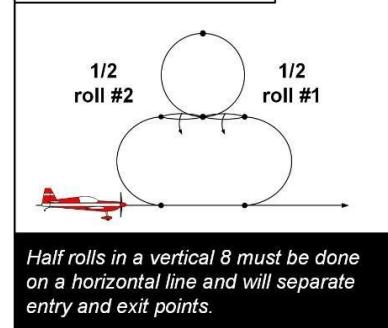

Figure 45
These figures may be combined with various types of half rolls. When a half roll is performed between the loops, there is no line before or after the half roll. However, the half roll is flown on a horizontal line that begins as soon as the first loop is finished. As soon as the half roll is finished, the next loop must begin immediately. Adding a line at either of these points is at least a two (2) point deduction depending on the length of the line. These figures are to be graded using the same criteria as full loops. Additionally, both loops must be of the same size. Unless there is a half roll between the loops, they must be directly above one another. Here as well, the beginning and the end point of the maneuver will not be in the same vertical plane if a half roll is flown between the loops (Fig. 45). This should not be a reason for downgrade.